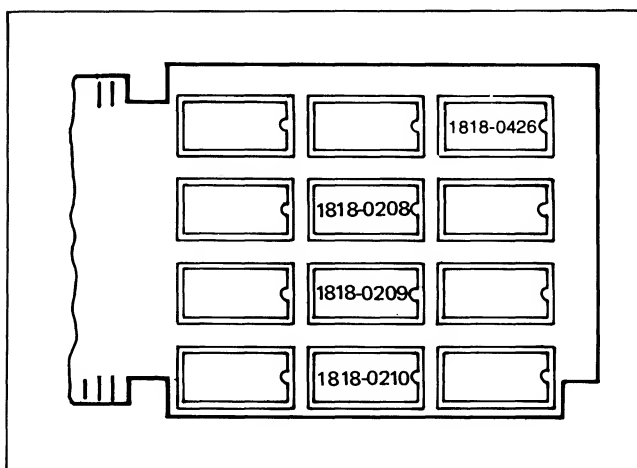

Figure 7-15. 13261A Device Support Firmware IC Locations on Control Memory PCA
8. () Carefully insert the appropriate ROM contained in accessory package into ROM socket 10 through 16 that ROM pin 1 is at upper right corner of each socket (see figure 7-15).